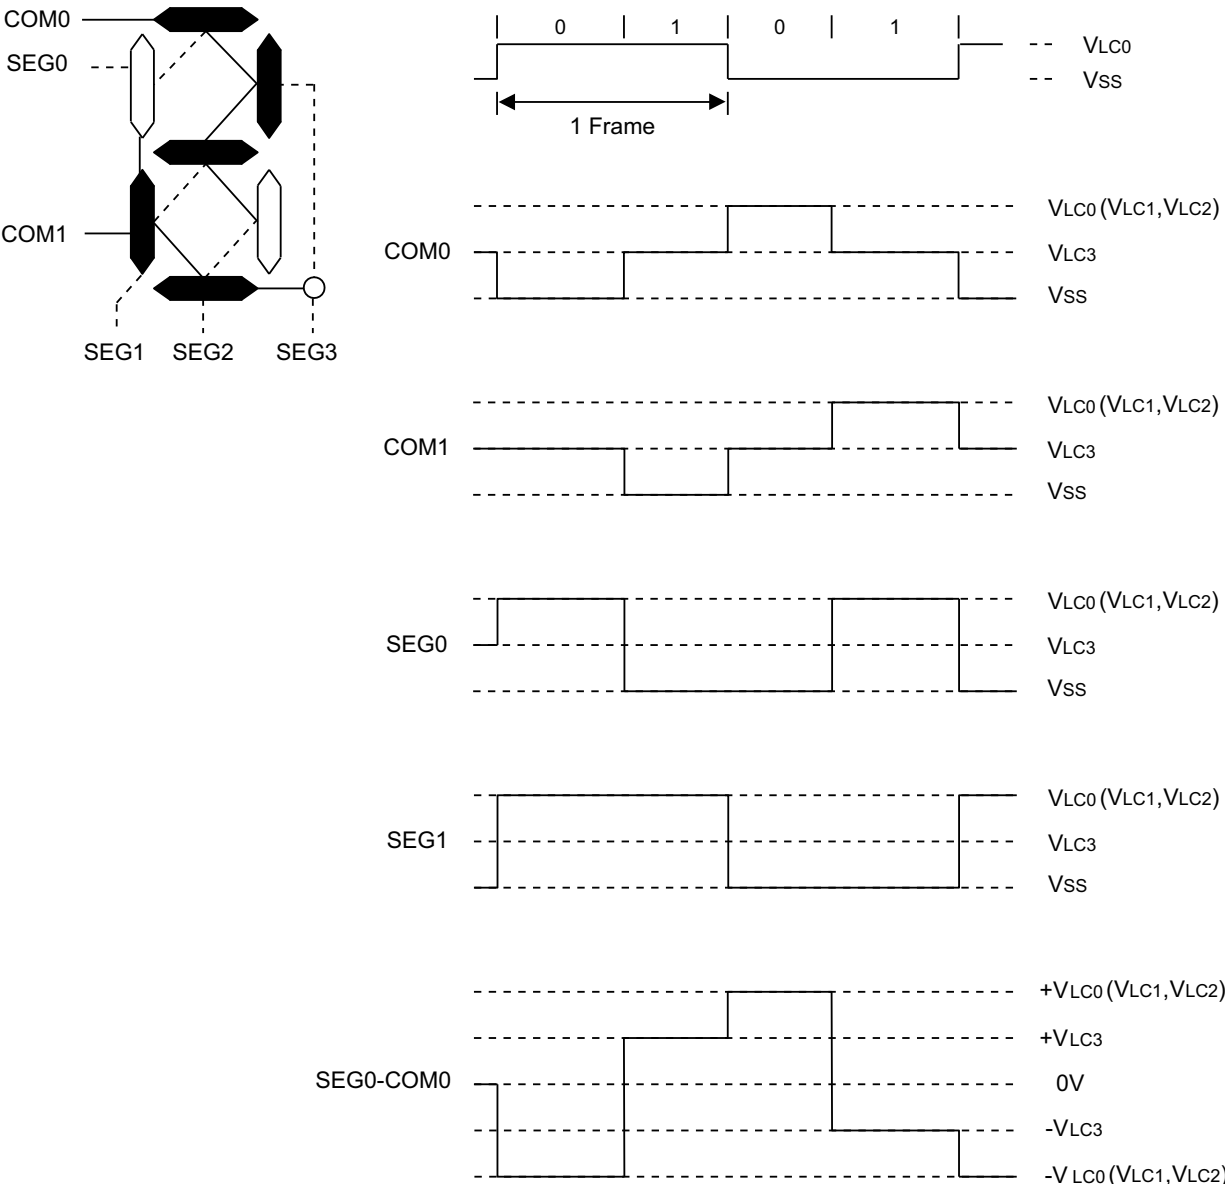

Figure 91. LCD Signal Waveforms: 1/2 Duty, 1/2 Bias
Figures 91 through 95 present waveforms of the LCD signal for differing duty and bias configurations.
► **Note:** In Figure 91,  $V_{LC0} = V_{LC1}, V_{LC2}$ .